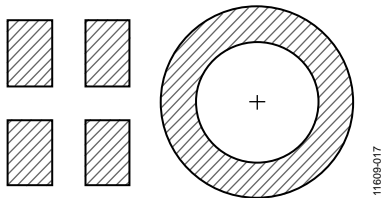
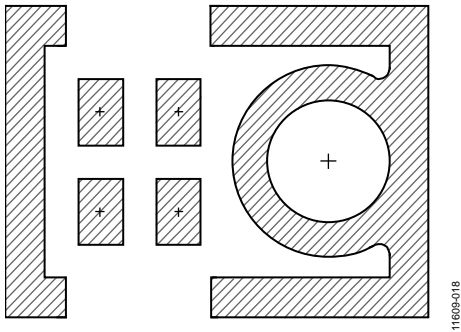

Figure 21. Example PCB Land Pattern with No Enclosing Ring
Figure 22. Example PCB Land Pattern with Broken Enclosing Ring
The standard PCB land pattern of the ADMP621 has a solid ring around the edge of the footprint that can make routing the microphone signals more difficult in some board designs. This ring is used to improve the radio frequency (RF) immunity performance of the ADMP621; however, it is not necessary to have this full ring connected for electrical functionality. If a design can tolerate reduced RF immunity, this ring can either be broken or removed completely from the PCB footprint. Figure 21 shows an example PCB land pattern with no enclosing ring around the edge of the part, and Figure 22 shows an example PCB land pattern with the ring broken on two sides so that the inner pads can be more easily routed on the PCB.